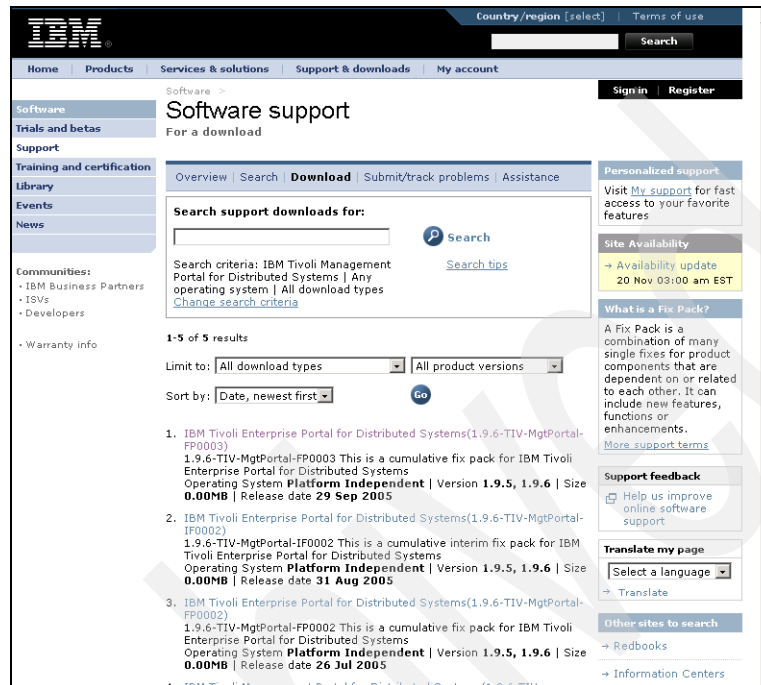

Figure 4-3 Sample list of available fixpacks
2. Find the product name, such as IBM Tivoli Management Portal for Distributed Systems. A window will show available fixpacks (Figure 4-3 on page 118).